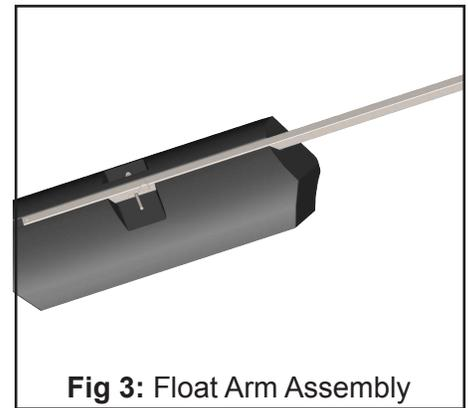

Fig 3: Float Arm Assembly
STEP 2: Attach the Floats to the Float Arms. (See Figure 3)